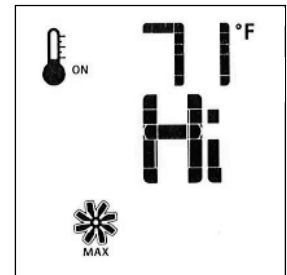

Figure 89. Fan Speed.
- Use the Up/Down Arrow Keys to turn ON, OFF, or adjust the fan speed. Fig. 89. A single "beep" will confirm reception of the command. After a 5 minute interval, the fan will power up to its highest speed and then modulate down to the established fan speed setting. The fan will continue to operate for 12 minutes after the burner is turned off. Manual speed control is not available when the SMART Thermostat is ON.